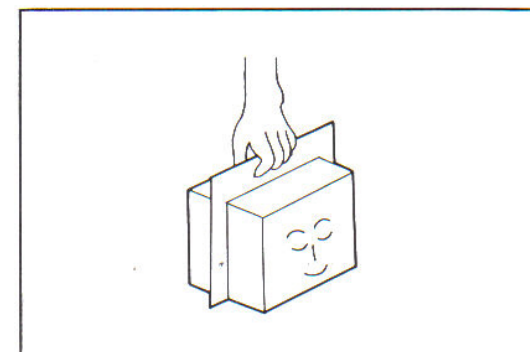

Fig. 5.44
b. Inspect the battery to make sure that the seal (plastic bag is stuck to the battery), it can be assumed to be in good condition. This battery will be ready for use after filling with electrolyte (specific gravity 1.260~1.280 @ 68°F or 20°C). (Fig. 5.44)